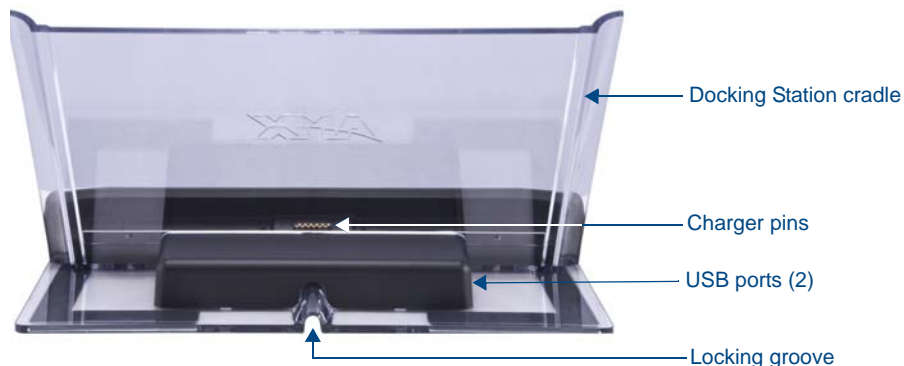

FIG. 9 MVP-TDS-9-GW Table Docking Station - Rear
2. To prevent wear on the power supply cord and assure that the device's base is in full contact with the table surface, press the cord into the locking groove running across the bottom of the device (FIG. 9).
4. Place the touch panel in the Docking Station cradle, guiding it into place with the locking grooves on each side of the cradle (FIG. 9). When fully seated, the touch panel's Docking Station connector should be in contact with the Docking Station's charger pins.
To recharge the MVP-9000i, slide the device into the Table Docking Station cradle bottom-first and make sure the device is fully seated in the Docking Station. The charger pins in the bottom of the cradle (FIG. 9) must be in contact with the connector on the bottom of the MVP-9000i for it to start recharging. The MVP panel will stop recharging automatically once the battery has achieved its maximum charge.
The MVP-TDS-9 has two USB ports on the left of the device behind the Docking Station cradle (FIG. 9). These ports may be used for transferring files to the MVP-9000i, as well as ports for USB-powered accessories.